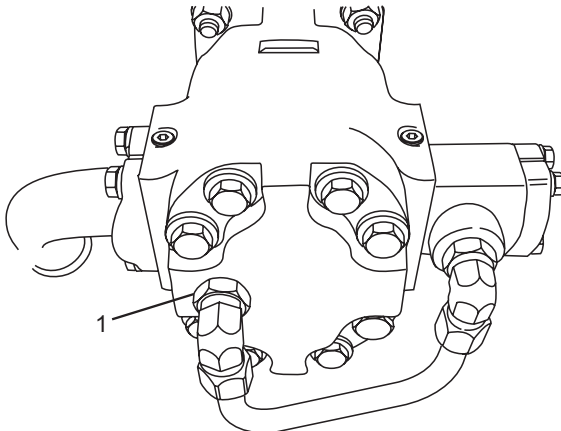

Figure 51
- c. The regeneration line connection (Figure 51, Item 1). This port can still be used by removing the line and capping the line, or